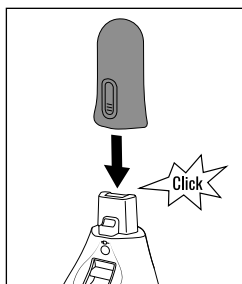

Fig. 4
- ◆ Carefully push the short handle **25** onto the motor unit **8** until it clicks into place (see fig. 4).